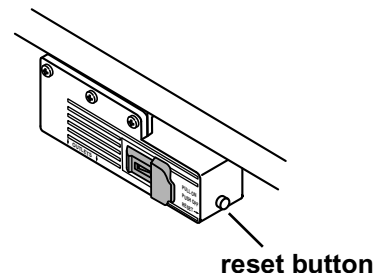

Figure 29
4. Push the reset button to reset it. See Figure 29.